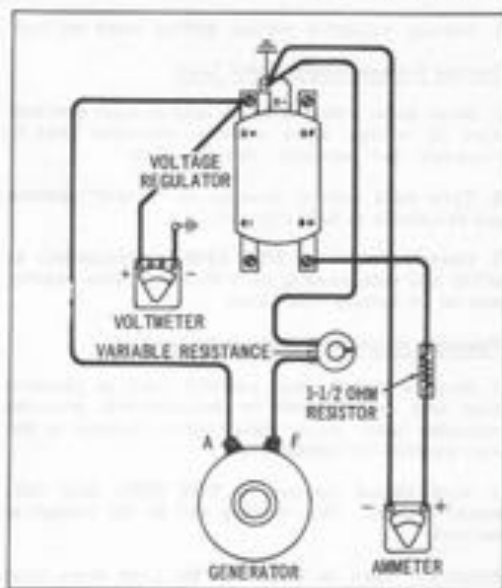

Figure 51-7.
A. TESTING GENERATING SYSTEM (FIG. 51-7)
B. TESTING CUTOFF RELAY UNIT CLOSING VOLTAGE - SAME CONNECTIONS ARE USED AS IN TEST A (FIG. 51-7)